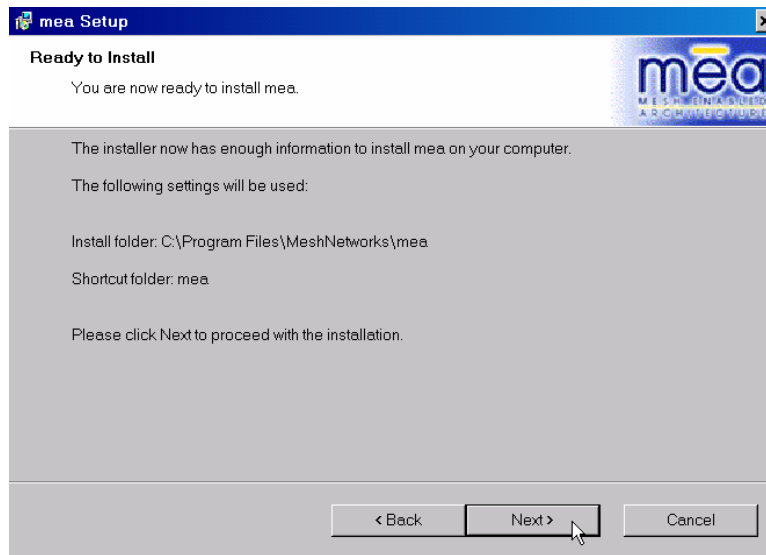

Figure 18. MEA Setup - Ready to Install Dialog Box
9. The *Ready to Install* dialog box will be displayed as shown in Figure 18. This dialog box displays the Install Folder location and the Shortcut Folder name that will be used to install the MEA software. Click on **Next** to proceed with the installation process.